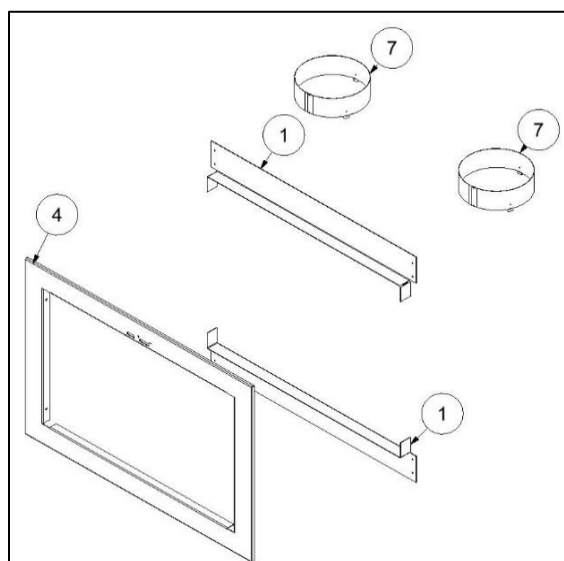
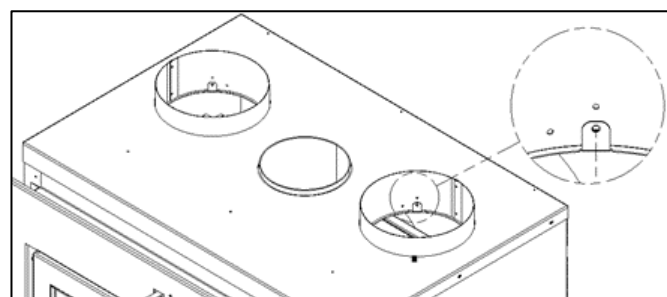
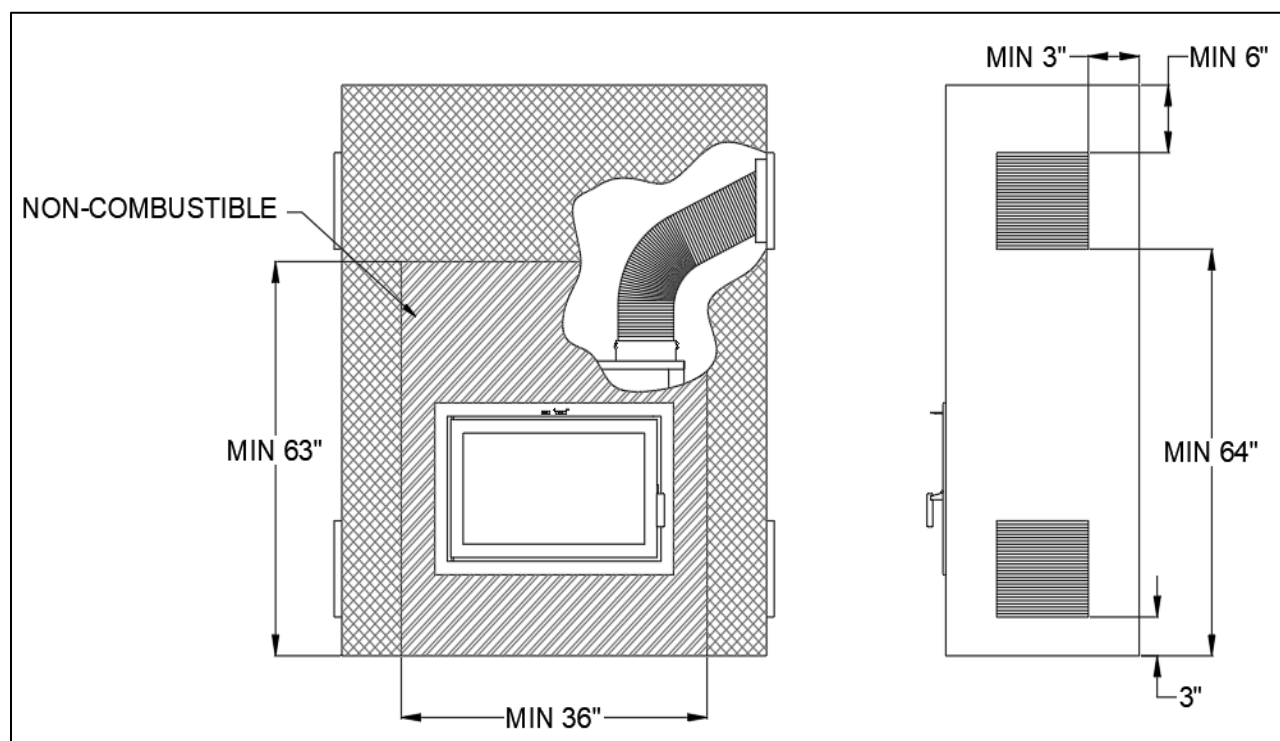

Figure 3-14: Clean Face Surround Components
Figure 3-17: Tabs Inside the 8 Inch Knockouts
Figure 3-21: Clean Face Astra 24 Chase
The Clean Face surround comprises no louvers; however, an intake into the chase and an outtake through gravity ducts is required for this configuration. The instructions below describe the installation of the Clean Face surround. Refer to Figure 3-14 Table 3-3 for the instructions below. Refer to Section 3.4 for Gravity Kit installation instructions.
4. Place the surround (Item 4 in Figure 3-14) within the door holder and secure it in place with 4 black screws (one on each corner). Make sure that the handles of the Combustion Air Control pass through the slots of the surround.
10. Install the 8 inch duct adapters (Item 7 in Figure 3-14) through the newly cut knockouts and screw them to the bent tabs (Figure 3-17).
1. Remove the two 8 inch knockouts (2) at the top of the unit using a flat head screwdriver.
3. Install the 8 inch flange adapters (Item 7 in Figure 3-14) through the newly cut knockouts and screw them to the top of the unit. Make sure to bend the tabs of the adapters before installation.
4. Determine the two locations of the air intakes on the chase and cut a rectangular opening 10.5" (W) X 9.5" (H). Note that a distance of 3 inches is required from the floor.
5. Determine the two locations of the air outtakes on the chase and cut a rectangular opening 10.5" (W) X 9.5" (H). Note that a minimum distance of 64 inches is required from the floor and a minimum of 6 inches is required from the ceiling (Figure 3-21). Please note that the air outtake grilles can be installed in the same room or in different rooms from each other. If the grilles are installed at different heights, more heat will be distributed to the highest one.
- Refer to Figure 3-21 for clearances to combustibles.
For the Clean Face surround option, two intake and two outtake openings must be constructed onto the chase. Refer to Figure 3-21 for minimum clearances.